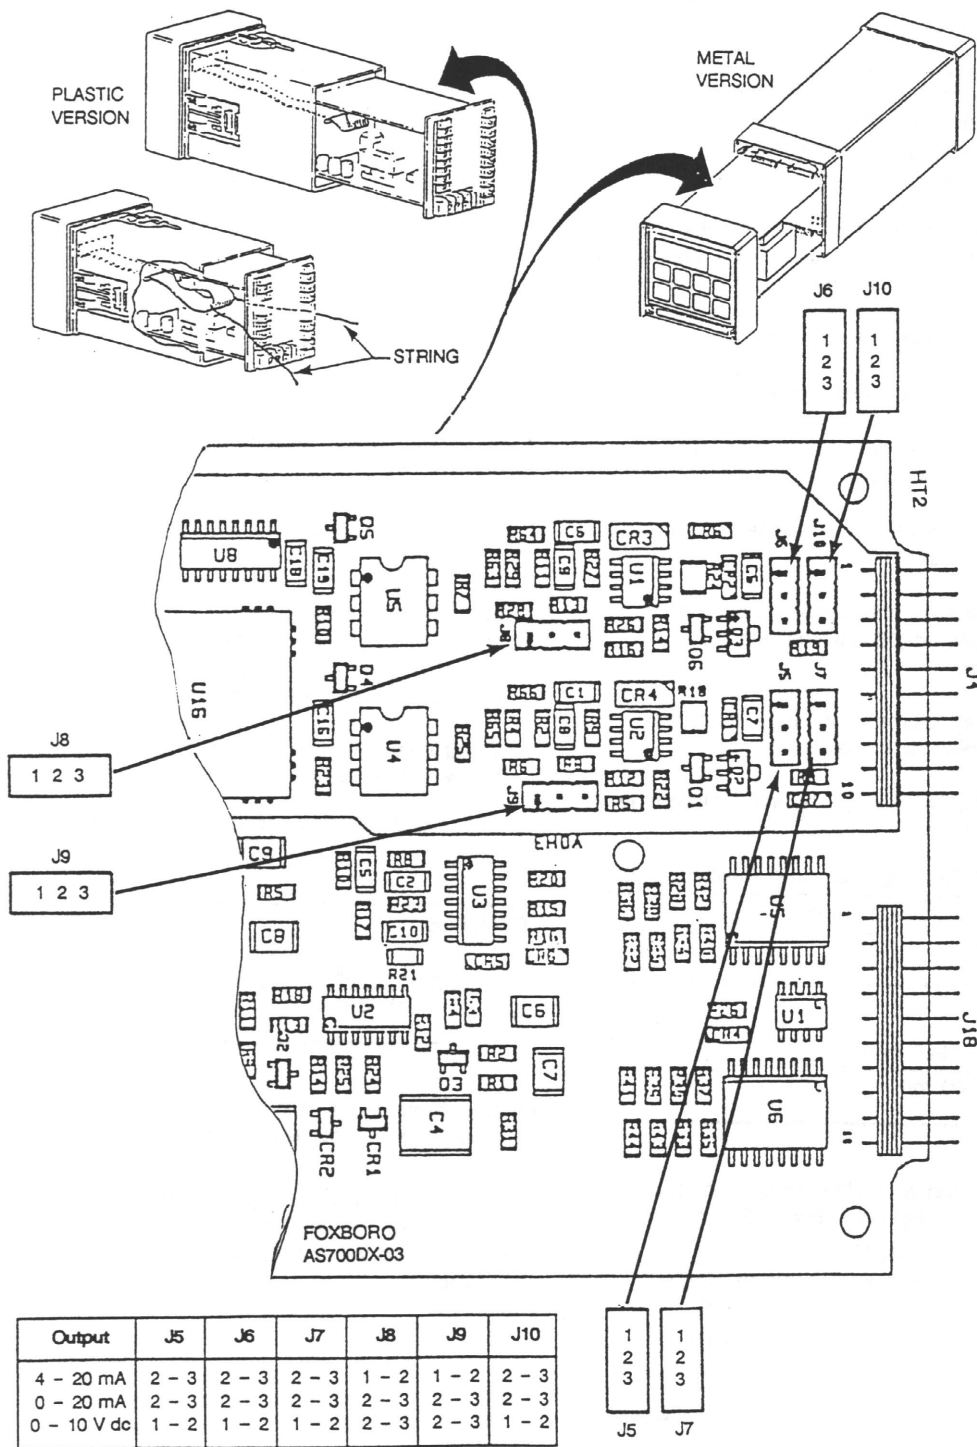

Figure 17. Jumpers for Changing Analog Output
4. Refer to Figure 17 to identify jumper locations.
On the plastic version, a string must be rigged through the loop in the ribbon cable such that when the board assembly is slid into the housing, the string/ribbon cable may be pulled back simultaneously, thus preventing damage to the cable. See Figure 17.